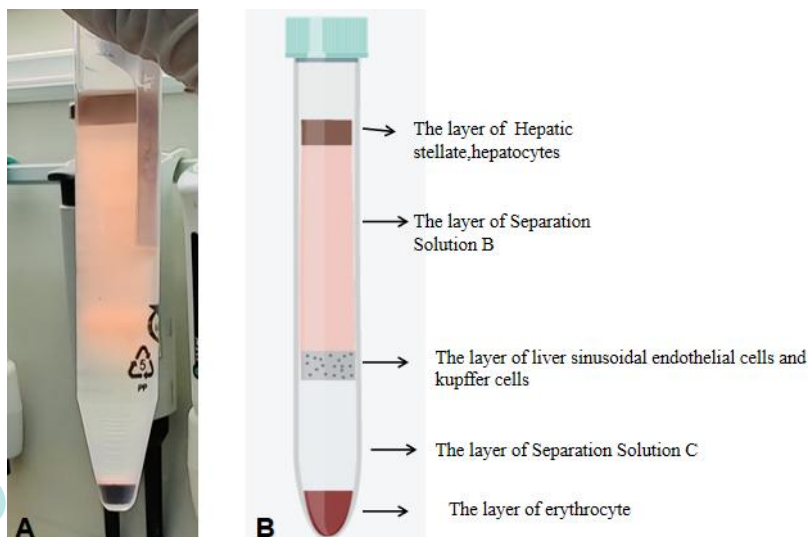

Figure 4. Reference image of cell suspension after centrifugation with separation solution
- (5) After stratification, centrifuge tube at 900 g for 15 minutes (set the acceleration to 1 and the decelerate to 0); After centrifugation, the liquid can be seen to be divided into 5 layers, from top to bottom: the top layer is approximately 2-5 mm thick liver stellate cells, the second layer is approximately 6 mL separation solution B, the third one is approximately 2-3 mm thick liver sinusoidal endothelial cells and mixed cells (hereinafter referred to as the white membrane layer), the fourth is approximately 3 mL separation solution C, and the bottom layer is approximately 2-5 mm thick red blood cell precipitation (as shown in Figure 4).
- (6) Discard the top layer of cells and use a 1 mL pipette tip above the white membrane layer. Carefully remove the cells from the third layer of white membrane layer into a new sterile 15 mL centrifuge tube, add 5 mL of **Specialized Washing Solution For Rat Liver Sinusoidal Endothelial Cells** to resuspend the cell suspension, centrifuge at 400 g for 5 min, discard the supernatant, and retain the precipitate.